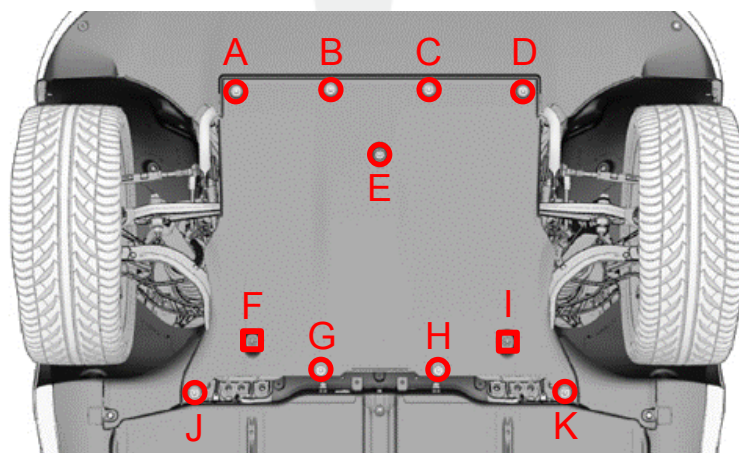

Figure 2 (○ 1083017-00-A (torque 5Nm), ◻ 1006538-00-A (torque 5 Nm))
4. Inspect the front aero shield panel, and comment in the Cause Narrative field of the Repair Order if the panel is missing, the damage to the panel (if any), and which bolts and nuts (if any) are missing (Figure 2).
5. If the front aero shield panel is present, torque all present bolts and nuts to the correct specification (Figure 2), and then comment in the Cause Narrative field of the Repair Order which bolts and nuts were under torqued.
6. If the front aero shield panel is undamaged, hand install all missing bolts and nuts, and then torque those bolts and nuts to the correct specification (Figure 2).